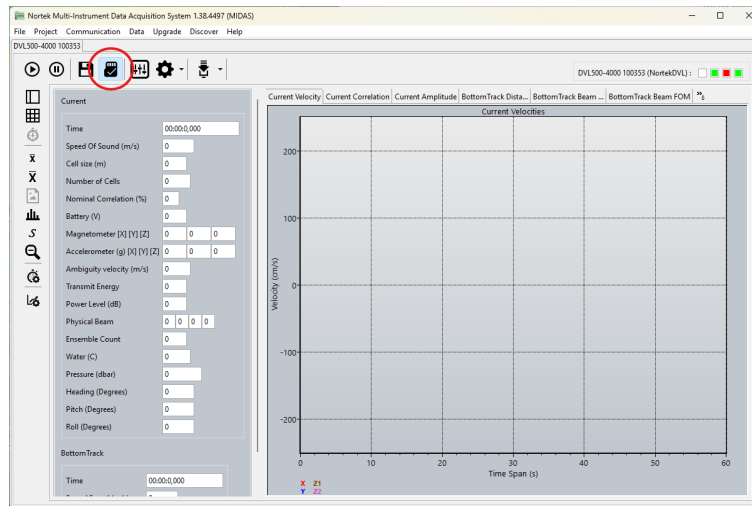

Figure 17: Midas Save to DVL Recorder
7. Alternatively, one may configure recording the spectrum to file on the DVL's recorder. Naturally the re-recording option is more sensible if there is not a suitable, real-time, communication channel and the DVL/Vehicle is below the surface. This is done by selecting the SD card icon on the Midas home screen (figure 17). Please contact Nortek for software and assistance in processing recorded data.